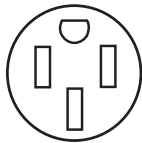

Figure 29
**1** A 4-pronged 250 volt, 40 amp outlet must be installed to match the plug for this unit. (See Figure 29)